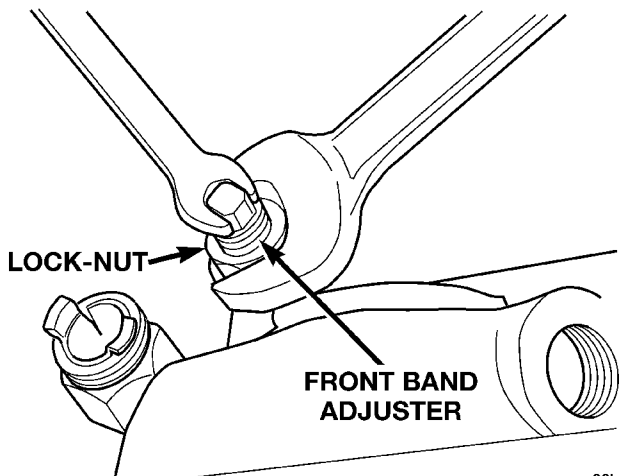

Fig. 261 Front Band Adjustment Screw Location
- (1) Raise vehicle.
- (2) Loosen band adjusting screw locknut (Fig. 261). Then back locknut off 3-5 turns. Be sure adjusting screw turns freely in case. Apply lubricant to screw threads if necessary.
- (3) Tighten band adjusting screw to 8 N·m (72 in. lbs.) torque with Inch Pound Torque Wrench C-3380-A, a 3-in. extension and 5/16 socket.